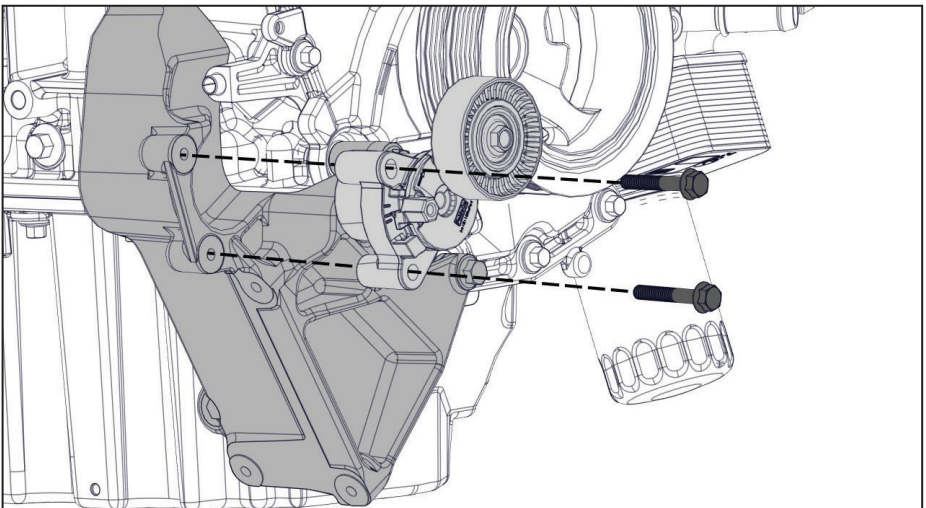

Figure 13 — Install tensioner
- Using (x2) M8 x 1.25 x 50 mm bolts, install the 4 rib belt tensioner onto the VMAC main bracket (Figure 13).